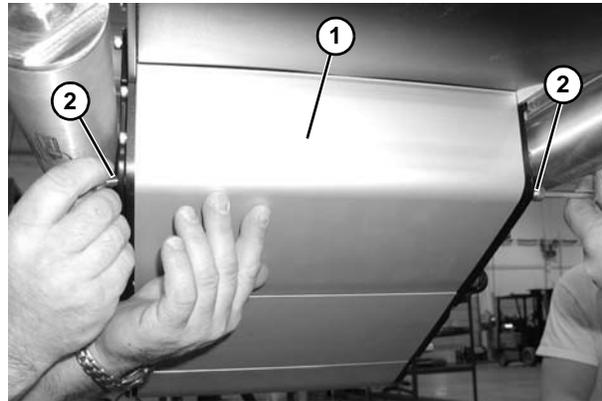

Figure 46
2. Temporarily support idler guard assembly (Figure 46, item 1). Remove screws (Figure 46, item 2).